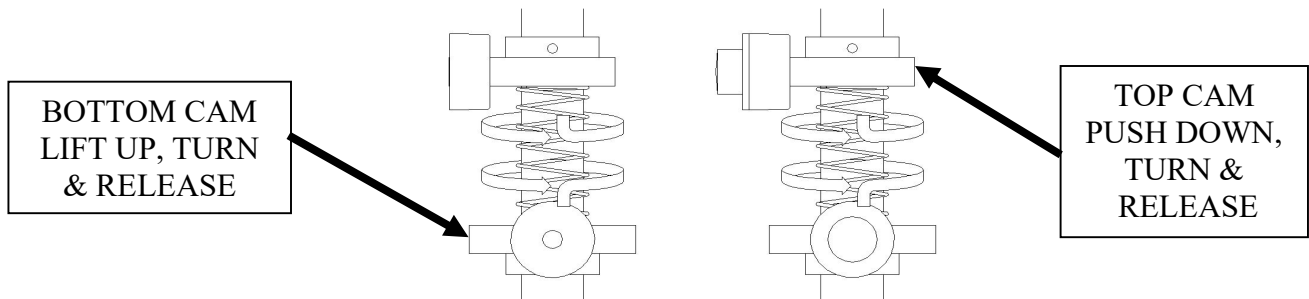

Fig 3
- 5.2 To set switches, lift the bottom TouchSet cam and turn until the switch has activated and then release. The spring will push the TouchSet cam back onto the splined shaft. See figure 3.
- 5.3 Stroke the actuator to the opposite end of travel. Set the top TouchSet cam by pushing down and turning the TouchSet cam until the switch is activated. See figure 3.
Spring return momentary push type, must hold in to actuate. See Fig. 3